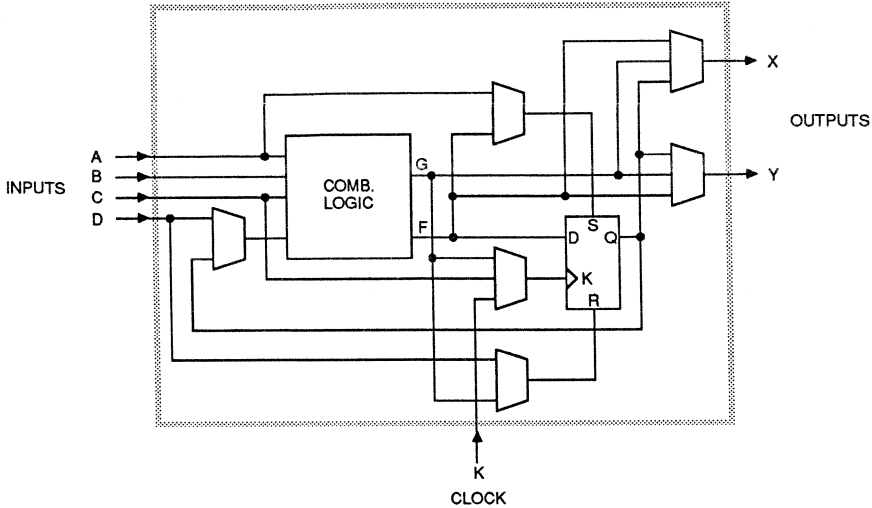

Figure 4. Configurable Logic Block
internal routing and control section. Each CLB has four general-purpose inputs; A, B, C and D; and a special clock input (K), which may be driven from the interconnect adjacent to the block. Each CLB also has two outputs, X and Y, which may drive interconnect networks. Figure 4 shows the resources of a Configurable Logic Block.
The two block outputs, X and Y, can be driven by either the combinatorial functions, F or G, or the storage element output Q (Figure 4). Selection of the outputs is completely interchangeable and may be made to optimize routing efficiencies of the networks interconnecting the logic blocks and I/O blocks.